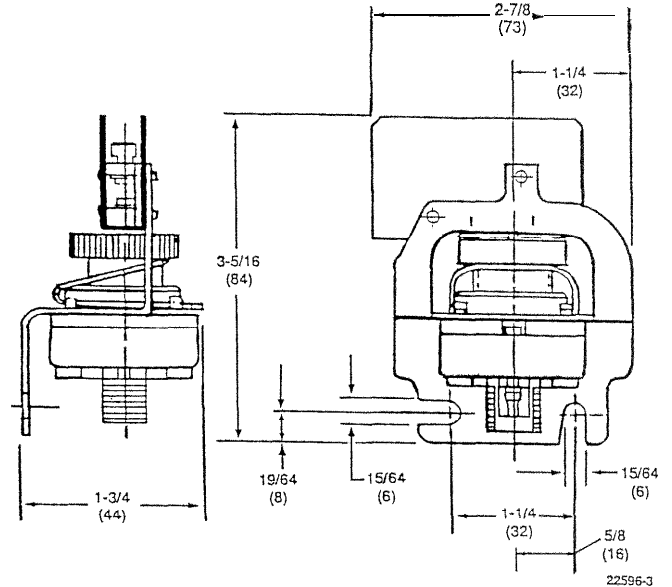

Fig. 3. P658E Switch Approximate Mounting Dimensions in Inches (Millimeters).
3. Mounts P658E using two No. 8 screws through 90-degree mounting slots on 1-1/4 in. (32 mm) centers (Fig. 3).